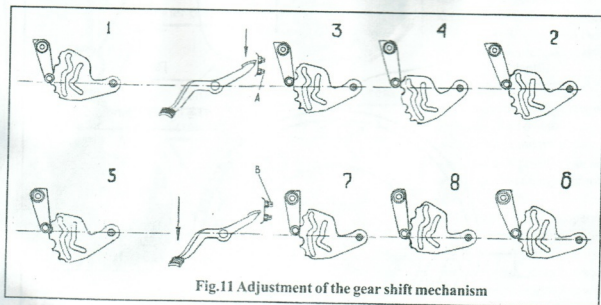

Fig.11 Adjustment of the gear shift mechanism
To adjust the lower stop "A" limiting the turn of the quadrant when up-shifting (acceleration), proceed as follows (see Fig. 11):
-Depressing the upper arm of the pedal, engage the quadrant in the position of II gear, the retaining roller should fully get into the flute on the quadrant and lock it in the Pos. 1 (Fig. 11) by means of the spring.
-When the lower stop is adjusted correctly the quadrant turns to required angle and locks again in Pos.2 (Fig. 11)
When the stop is maladjusted the roller after turn would not get into flute, Pos. 3 and 4 (Fig. 11). It can be easily found by turning the projecting end of the quadrant this or that way using 10 mm-wrench.
-Depressing the lower arm of the pedal, shift the quadrant from III gear to II gear, Pos. 5 (Fig.11)
-Check the quadrant shaft for soundness of locking of the roller in the flute of the quadrant, using 10-mm wrench. When it is not locked properly, the stop is maladjusted, Pos. 7 and 8 (Fig. 11)